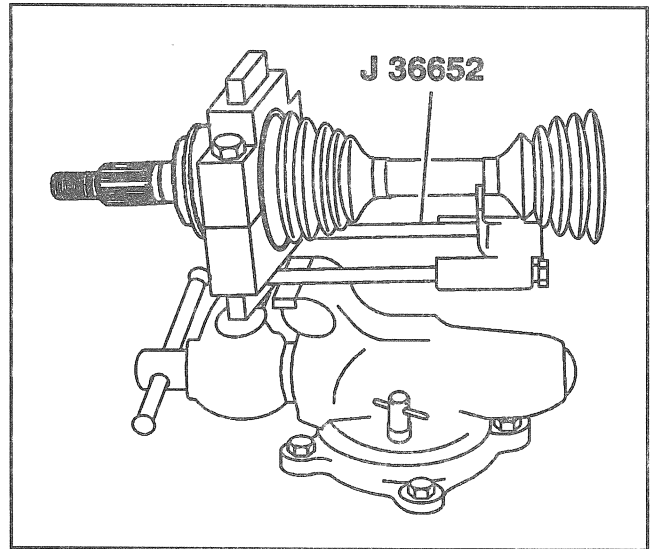

Figure 57—Installing Swage Ring
- Place the top half of the tool on the lower half of the tool and check for proper alignment (Figures 57 and 58).
- Make sure the seal, (2) housing, and (3) swage ring all remain in alignment (Figures 57 and 58).
Remove or Disconnect (Figures 57, 58, and 62 through 65)
- B. Place the top half of the proper size tool on the lower half of tool and check for proper alignment and dimension (Figures 57, 58 and 65).
- Make sure that the seal, housing and swage ring all remain in alignment (Figures 57 and 58).